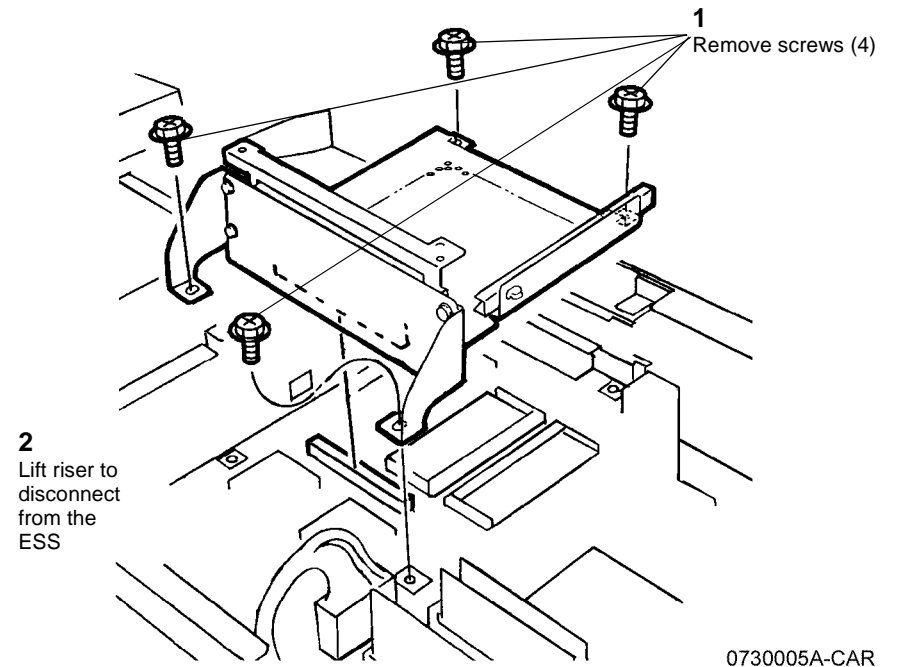

Figure 3 Removing the Chassis Assembly Riser
8. Remove the Chassis Assembly Riser (Figure 3).